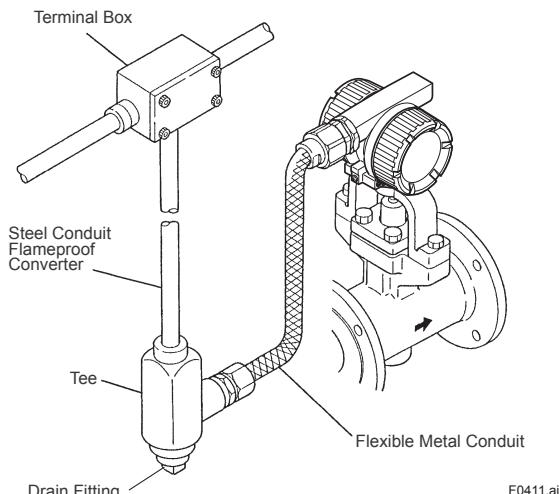
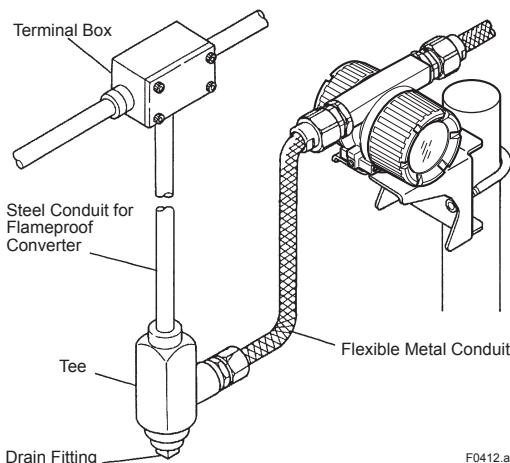

Figure 4.9 Example of Wiring (Integral Type and Remote Type Detector (DY-N))
Figure 4.10 Example of Wiring (DYA Remote Type Converter)
- (1) Lay wiring as far as possible from electrical noise sources such as large capacity transformers, motors, and power supplies.
- (2) Remove the terminal cover and dustproof plug of an electrical connection before wiring. When you open the cover of explosion protected type (*), turn the Locking Screw to the right, and unlock. When you close a cover after wiring, be sure to turn the Locking Screw to the left and lock.
- (3) It recommends using an flexible metal conduit and a duct for waterproofing or external protection of an electric wire. Read Figure 4.9 and Figure 4.10.
- (4) The flameproof packing adapter (option code: /G11 or /G12) should be used for the external wiring of TIIS Flameproof. Read "INSTALLATION AND OPERATING PRECAUTIONS FOR TIIS FLAMEPROOF EQUIPMENT."